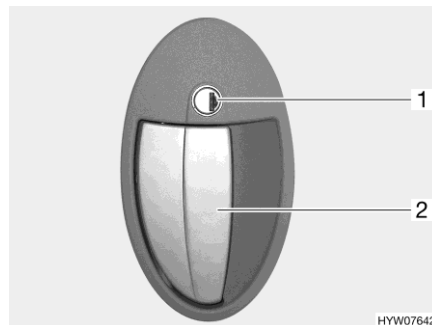

Fig. 16 Door lock (conversion door, outside)
- Insert the key in the locking cylinder (Fig. 16,1) and turn it in a clockwise direction until the door lock is unlatched.
- Pull on the door handle (Fig. 16,2). The door is open.
- Insert the key in the locking cylinder (Fig. 16,1) and turn it in an anti-clockwise direction until the door lock is engaged.